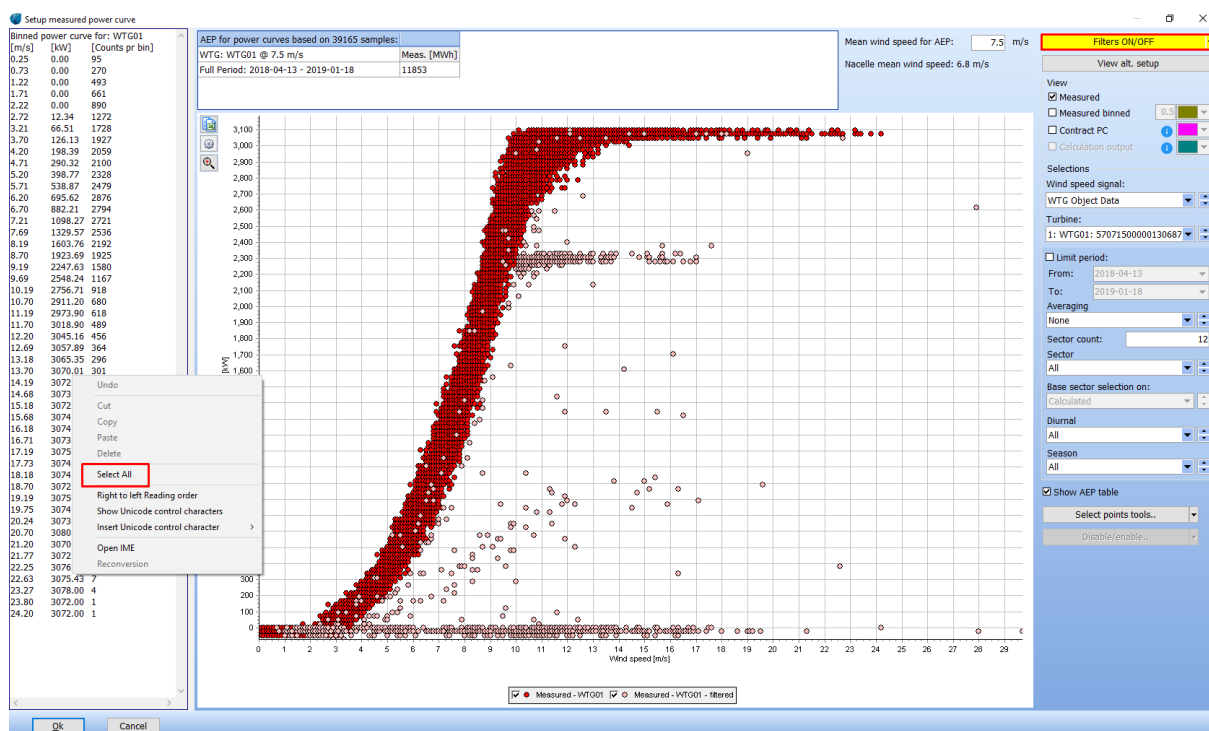

Figure 48: Historic power curve
**View/Setup** displays the historic power curve (Figure 48). By pressing the right mouse button, it is possible to copy the data from the historic power curve from the table.